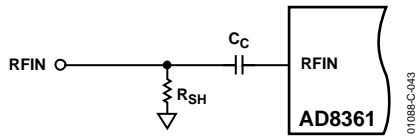
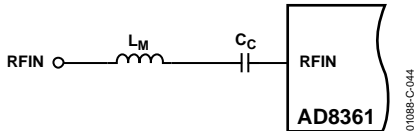

Figure 43. Input Coupling/Matching Options, Broadband Resistor Match
Figure 44. Input Coupling/Matching Options, Series Inductor Match
A number of options exist for input matching. For operation at multiple frequencies, a 75  $\Omega$  shunt to ground, as shown in Figure 43, provides the best overall match. For use at a single frequency, a resistive or a reactive match can be used. By plotting the input impedance on a Smith Chart, the best value for a resistive match can be calculated. The VSWR can be held below 1.5 at frequencies up to 1 GHz, even as the input impedance varies from part to part. (Both input impedance and input capacitance can vary by up to  $\pm 20\%$  around their nominal values.) At very high frequencies (i.e., 1.8 GHz to 2.5 GHz), a shunt resistor is not sufficient to reduce the VSWR below 1.5. Where VSWR is critical, remove the shunt component and insert an inductor in series with the coupling capacitor as shown in Figure 44.
**Table 5. Recommended Component Values for Resistive or Inductive Input Matching (Figure 43 and Figure 44)**